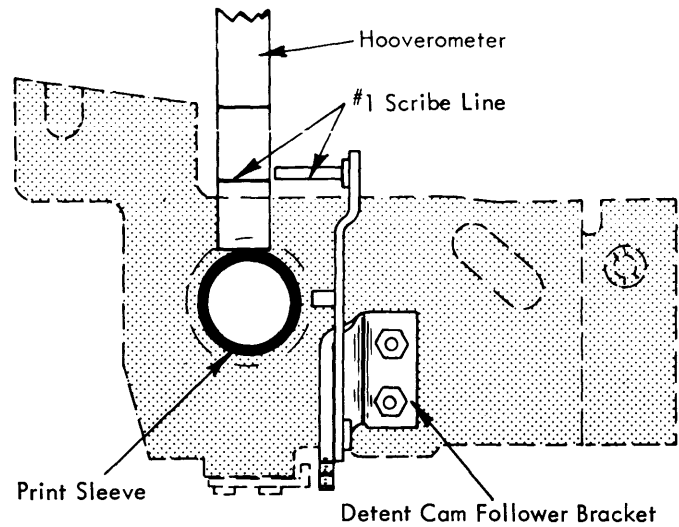

FIGURE 39b. Detent Cam Follower Bracket
- b. Vertically so that the bottom surface of the pin on the cam follower lines up with the scribe line #1 on the Hooverometer when the Hooverometer is placed against the print sleeve as shown in Figure 39b.